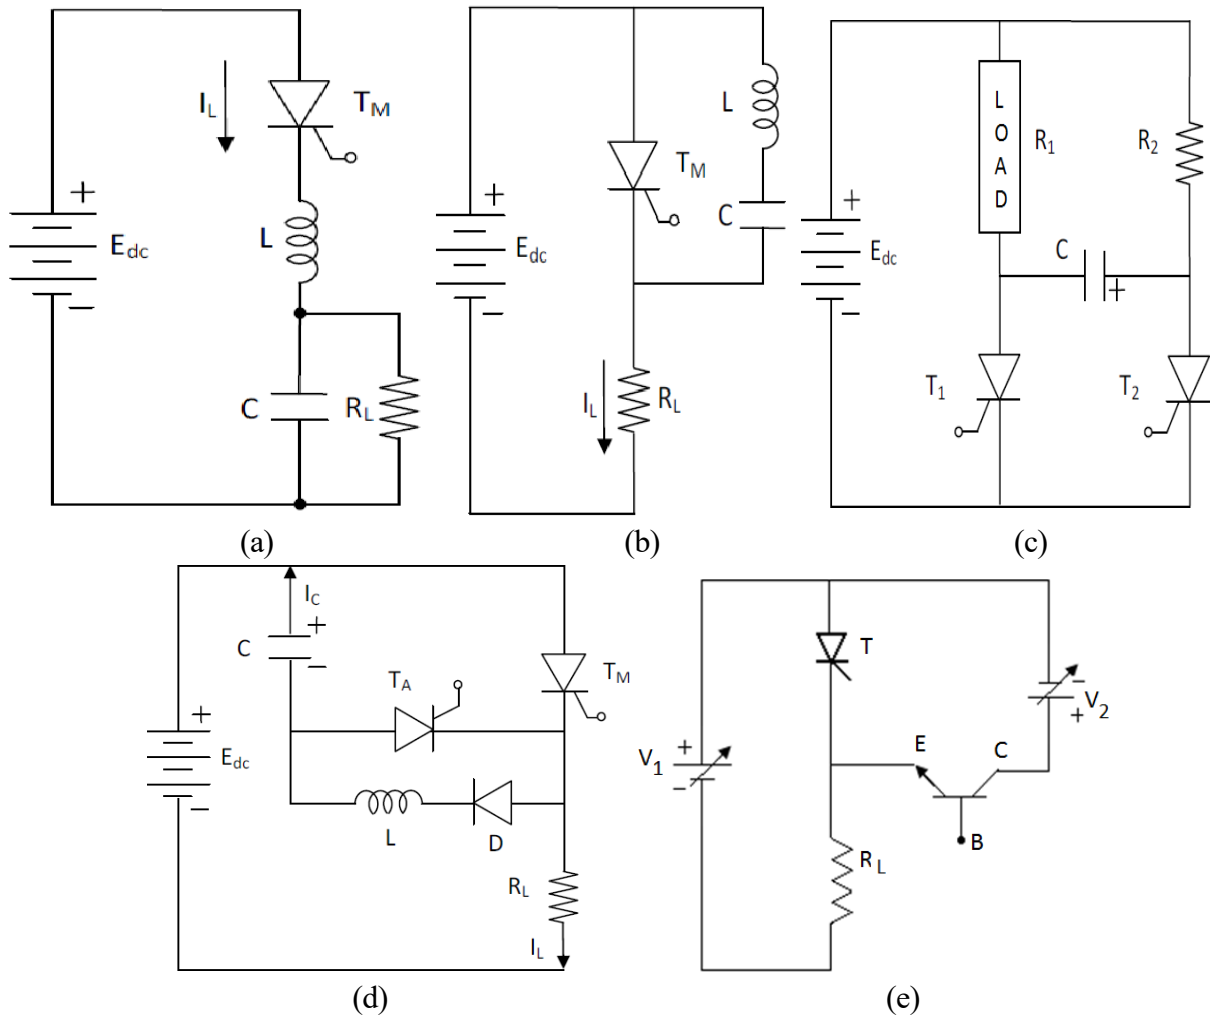

Fig. 10.1 Commutation circuits: (a) class-A, (b) class-B, (c) class-C, (d) class-D and (e) class-E
1. Connections are made as per the circuit diagram given in Fig. 10.1 (d).